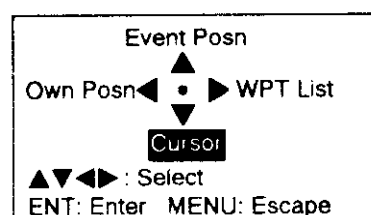

Figure 12
- 1) Press the **WPT** key. The display shown in Figure 12 appears.